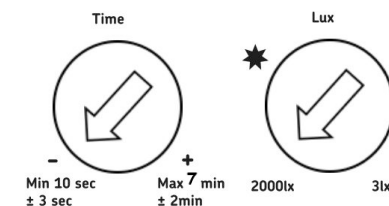

Fig. 4
- The time dial can be adjusted to increase the length of time the sensor is activated after the last detection of movement (see Fig. 4)
- The lux dial can be used to adjust the level of brightness at which the sensor is operational. When set to 2000 lux it will operate during the daytime; when set to <10 lux it will operate only in darkness (see Fig. 4)